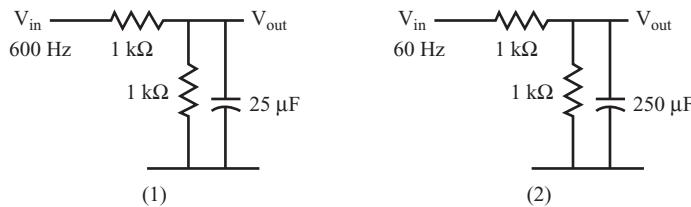

FIGURE 6.39
- 27** Figure 6.39 shows two versions of the circuit discussed in problem 26 with changes to the value of the capacitor or the frequency of the input signal. The DC input voltage is 20 volts, and the AC input voltage is 10 V_{pp} . Use the same steps shown in problem 26 to find and compare the output voltages with the input voltages for the two circuits shown in Figure 6.39.